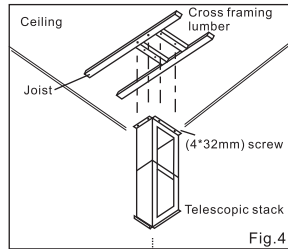

Fig.4
5. If the ceiling is not strong enough, it must install 2 (2"x10") cross framing lumbers between joists. (Fig.4)
6. Replace the mounting templet in the position of the ceiling joists and cross framing lumbers, install telescopic stack to the ceiling joists and cross framing lumbers with 8 (4x32mm) screws as provided, ensure all screws were driven firmly. (Fig.4)